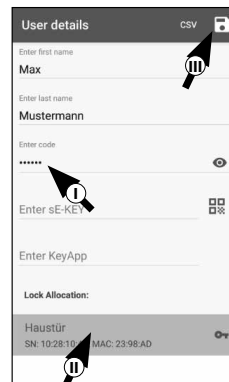

Fig. 32
- 1 Enter a user-defined code (I) (Fig. 32).
- 2 Next, assign a cylinder by tapping it in the list of cylinders already registered (II) (Fig. 32).
- 4 The user has now been assigned the user code and the selected lock within the KeyApp (Fig. 32). The programming process must be started so that the cylinder also receives this information. The corresponding description can be found in the chapter "Programming/ Updating the cylinder" on page 11.